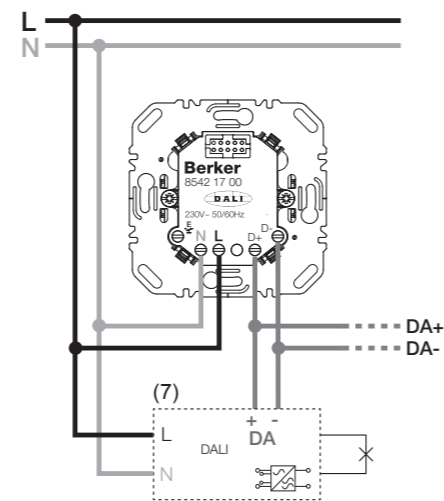

Figure 2: Connection diagram with connected mains voltage (active operation)
■ Connect DALI/DSI control insert and optional extension units according to connection diagram (Figure 2 to 4).